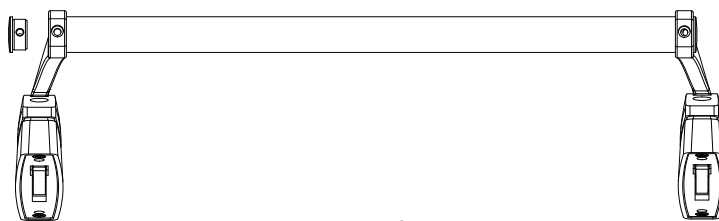

Figure 12
3. Drill 3/16" hole thru one side of bar using hole in arm to locate. (Figure 12)